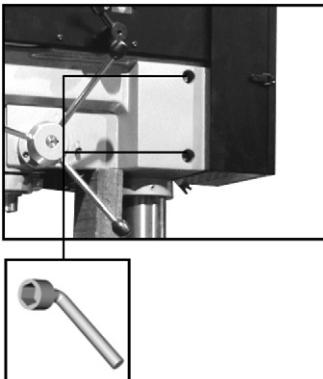

Figure 5
6. Unlock the machine head. Loosen head locking bolts (fig. 5)
8. Lock the machine head. Tighten the two head locking bolts (fig. 5).